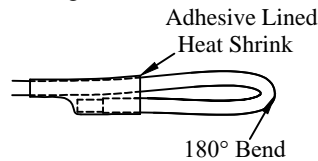

Figure 8: Sealed Wire End
- Seal** the remaining white and brown blunt-cut wires as shown (Figure 8).
X Indicates wire is sealed away and not used (Figure 8).